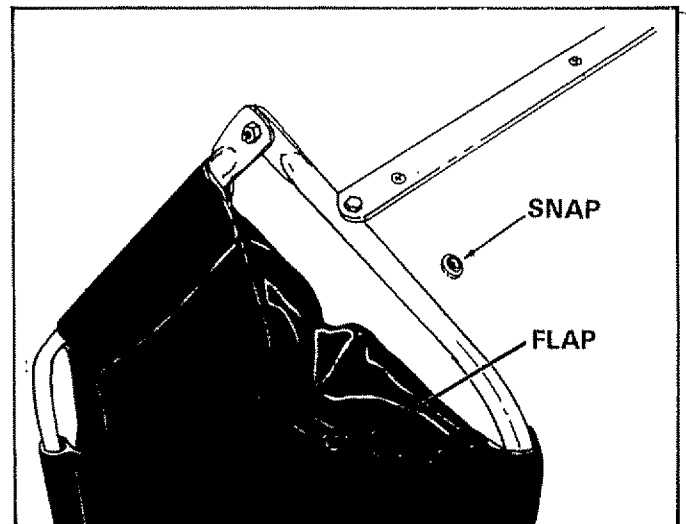

FIGURE 17
- Secure the bag corners over lower hopper tube by snapping the flap to bag bottom on both sides. See figure 17.